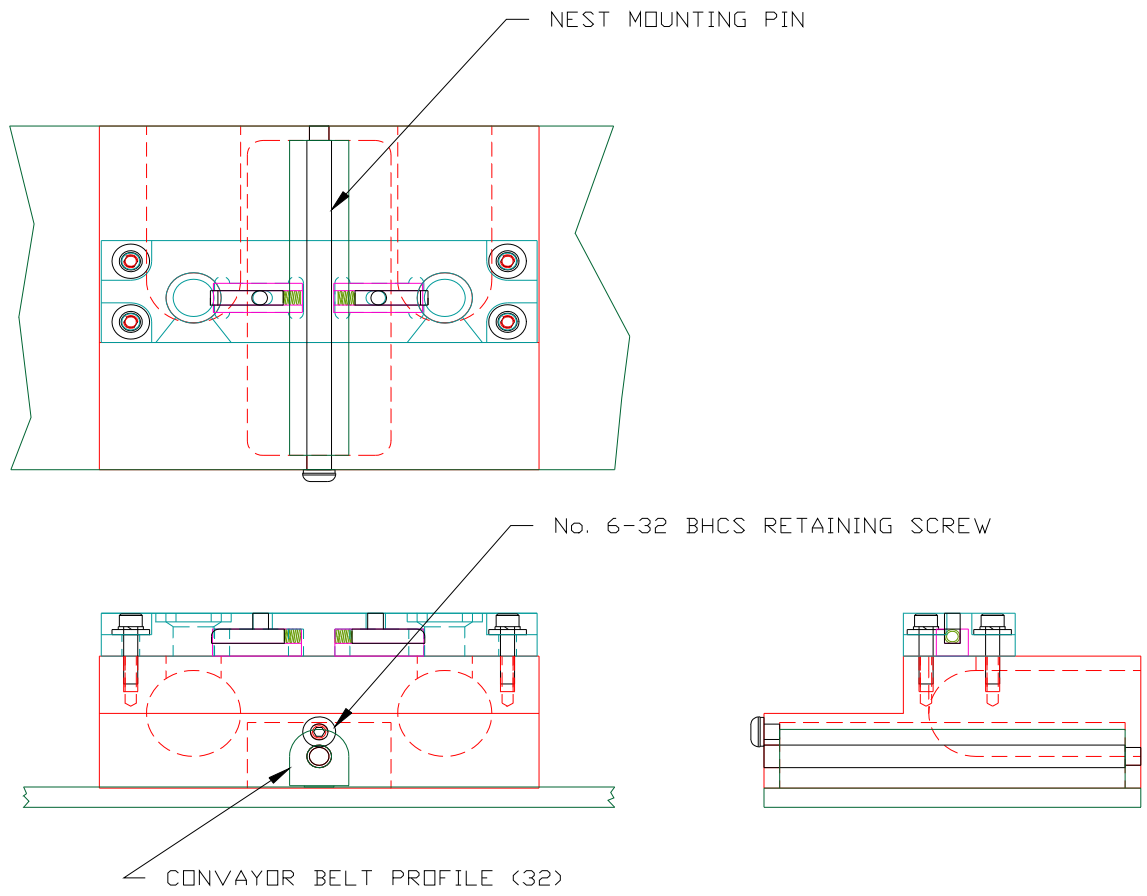

Figure 4 PALLET ASSEMBLY OVERVIEW
5. REMOVE THE NUMBER 6 RETAINING SCREW (Figure 4).